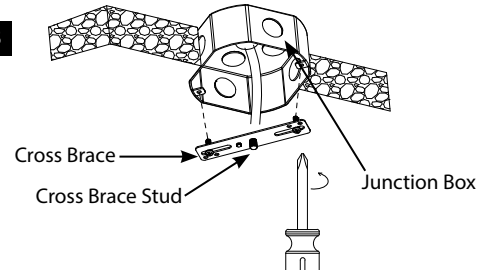

Fig: 24
3. Pass the **Power Cord** through the ceiling **Canopy** and secure with **Cord Strain Relief** as shown in Fig. 24.